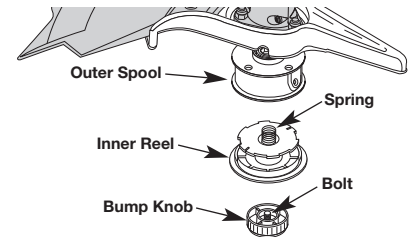

Fig. 25
1. Hold the outer spool with one hand and unscrew the Bump Knob clockwise (Fig. 25). Inspect the bolt inside the bump knob to make sure it moves freely. Replace the bump knob if damaged.
2. Remove the inner reel from the outer spool (Fig. 25).
3. Remove spring from the inner reel (Fig. 25).
1. Hold the outer spool with one hand and unscrew the bump knob clockwise (Fig. 25). Inspect the bolt inside the bump knob to make sure it moves freely. Replace the bump knob if damaged.
2. Remove the old inner reel from the outer spool (Fig. 25).
3. Remove the spring from the old inner reel (Fig. 25).